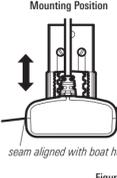

Figure 14
6. Adjust the transducer assembly vertically, until the seam on the leading edge of the transducer (the edge closest to the transom of the boat) is level and just slightly below the hull (Figure 14).
5. If you have the correct angle set on the transducer, yet lose a bottom reading at high speed, adjust the height and the running angle in small increments to give you the ideal transducer position for your boat. First, adjust the height in small increments (Figure 14).